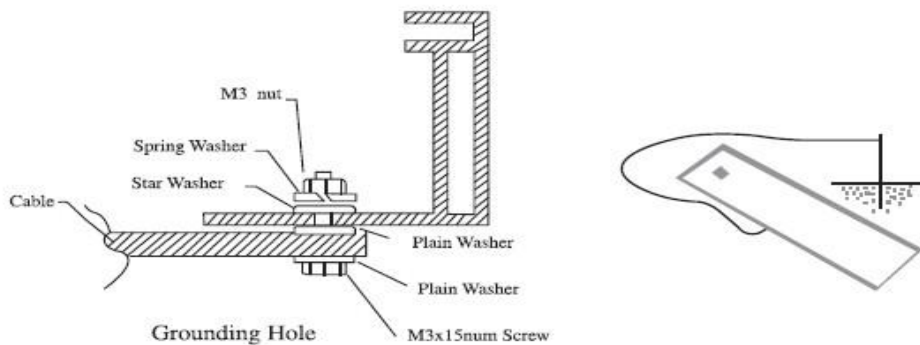

Figure 8: The graph of Grounding
- e) All module frames and mounting racks must be properly grounded in accordance with local and national electrical codes. Attach the equipment grounding conductor to the module frame using the hole and hardware provided. Not that a stainless steel star washer is used between the ground wire and module frame (see Figure 8 below).This washer is used to avoid corrosion due to dissimilar metals. Tighten the screw securely.